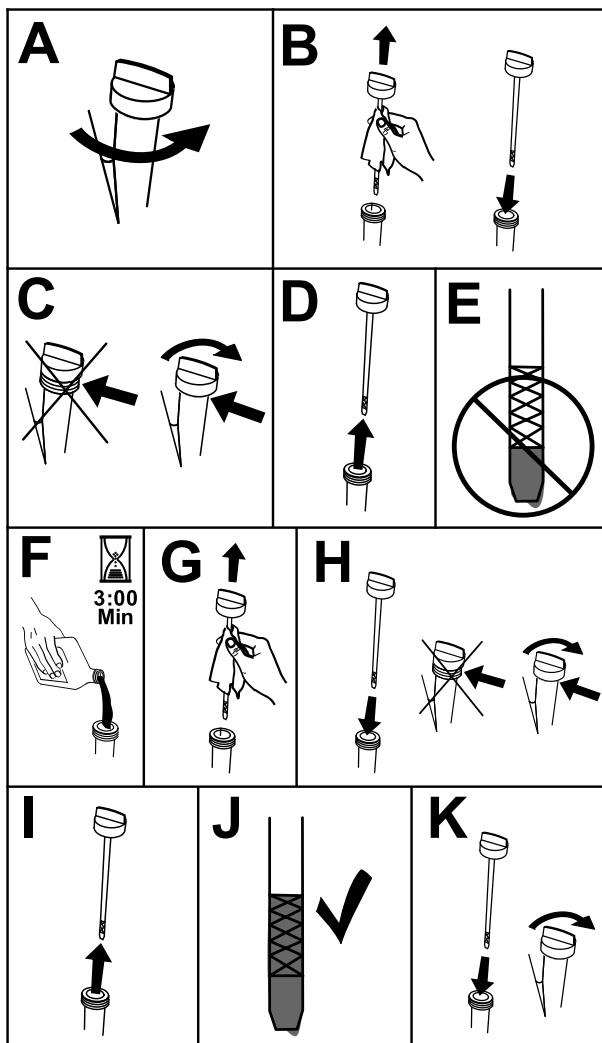

Figure 41
- To keep dirt, grass clippings, etc., out of the engine, clean the area around the oil-fill cap and dipstick before removing it (Figure 41).